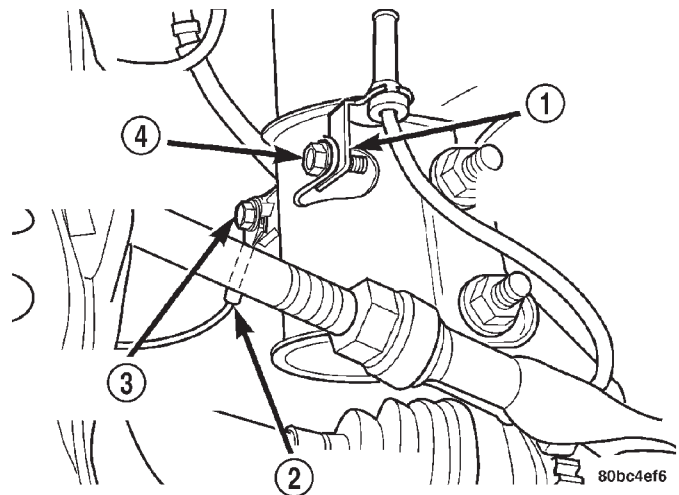

Fig. 5 Ground Strap And ABS Sensor Bracket
(1) Raise the vehicle. Refer to **HOISTING** in the **LUBRICATION AND MAINTENANCE** group for the proper lifting procedure.
(2) Remove tire and wheel assembly from location on front of vehicle requiring strut removal.
(3) If both strut assemblies are to be removed, mark the strut assemblies right or left according to which side of the vehicle they were removed from.
(4) Remove the screw securing the ground strap to the rear of the strut (Fig. 5).
(5) If the vehicle is equipped with Antilock brakes (ABS), remove the screw securing the ABS wheel speed sensor to the rear of the strut (Fig. 5).
(4) If the vehicle is equipped with Antilock brakes (ABS), attach the ABS wheel speed sensor to the rear of the strut (rearward ear) using its mounting screw (Fig. 5). Tighten the mounting screw to a torque of 13 N·m (120 in. lbs.).
(5) Attach the ground strap to the rear of the strut (forward ear) using its mounting screw (Fig. 5). Tighten the mounting screw to a torque of 13 N·m (120 in. lbs.).
(6) Install the tire and wheel assembly. Install and tighten the wheel mounting nuts in proper sequence until all nuts are torqued to half specification. Next, repeat the tightening sequence to the full specified torque of 135 N·m (100 ft. lbs.).
(7) Lower the vehicle.